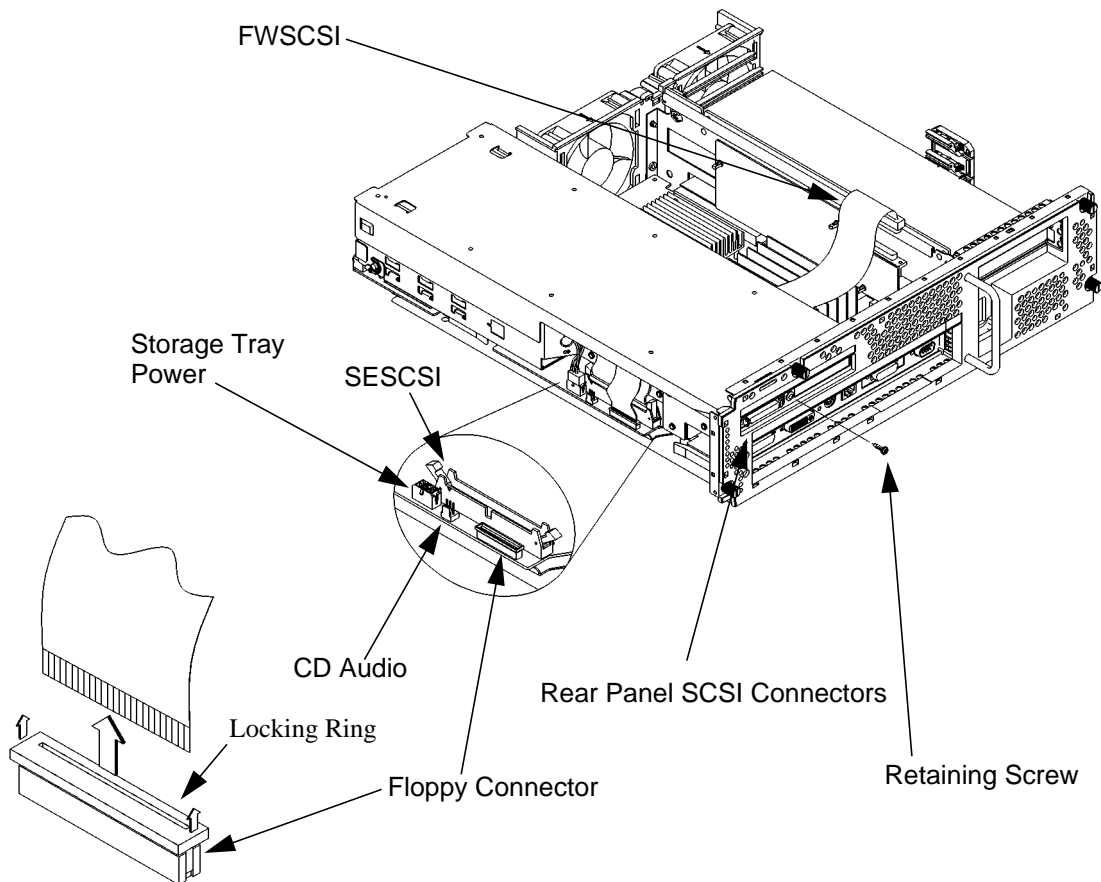

Figure 25 **Disconnecting the Storage Tray Assembly**
- 2 Disconnect the power, SCSI and CD Audio cables from the system board and the backplane, as shown in Figure 25.
- 4 Remove the storage tray retaining screw, as shown in Figure 25.